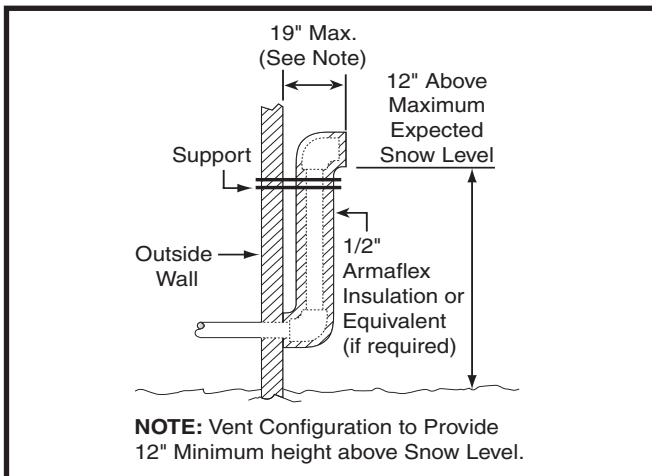

**Figure 1. Inlet & Exhaust Pipe Clearances**
- Vent and combustion air intake terminations shall be installed as shown in Figures 1 & 2 (page 9) and in accordance with these instructions:
- When the vent pipe must exit an exterior wall close to the grade or expected snow level where it is not possible to obtain clearances shown in Figure 1, a riser may be provided as shown in Figure 3. Insulation is required to prevent freezing of this section of pipe. See Table 3 (page 10) for vent freezing protection.